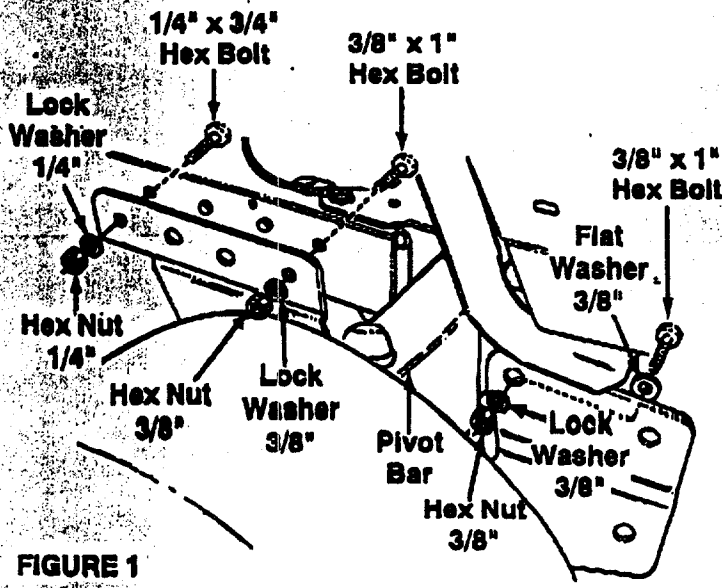

FIGURE 1
- Working on the right side of the tractor, place the right hand frame support, with the bend angling to the inside, against the frame of the tractor. See figures 1 and 2.
NOTE: On some older lawn tractors it may be necessary to drill the tractor frame mounting holes used in steps 2 and 3. To drill mounting holes use the support bracket as a template. Attach front of frame support bracket to grille mounting bracket as instructed in step 4. Place the two large holes on the rear of support bracket over the two self-tapping screws which secure the belt guard to the frame. See figure 1. Using the rear hole as a guide, drill a 9/32" hole through the frame of the tractor. Now using the front hole as a guide, drill a 13/32" hole through the frame of the tractor. Assemble support bracket as instructed in steps 2 and 3. Repeat this procedure on left hand support bracket. Tighten all bolts securely.
- Insert 1/4" x 3/4" hex bolt through small hole in rear of frame support bracket and frame of tractor. Secure with 1/4" lock washer and 1/4" hex nut. Tighten finger tight only. See figure 1.
- Insert 3/8" x 1" hex bolt through front hole of support bracket (located behind the pivot bar) and frame of tractor. Secure with 3/8" lock washer and 3/8" hex nut. Tighten finger tight only. See figure 1.